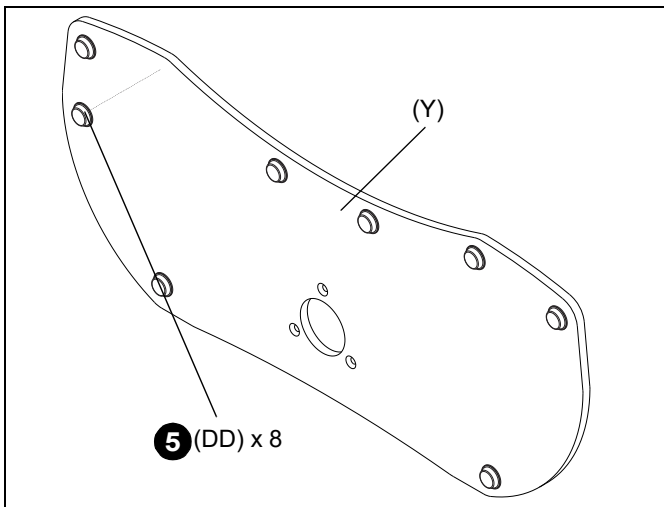

Figure 2
5. Apply eight adhesive bumpers (Y) to underside of table base (AA). (See Figure 2)